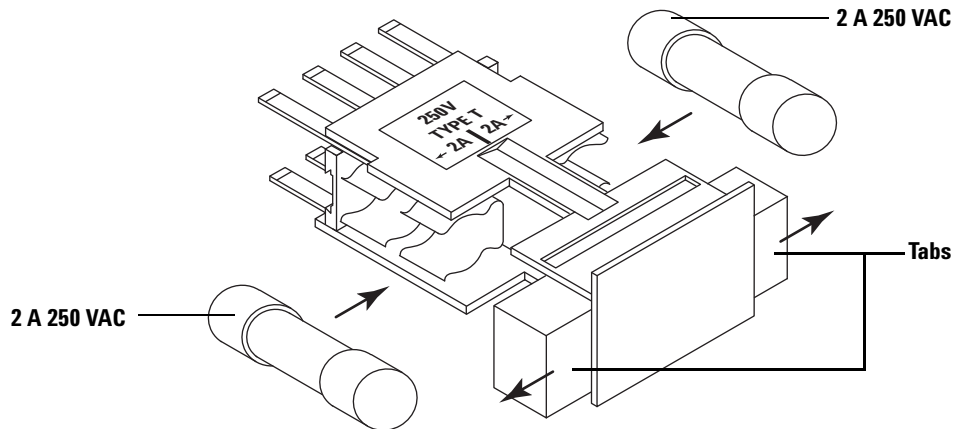

Figure 81 Proper fuse orientation
- 6 Install the new fuses (Figure 81).